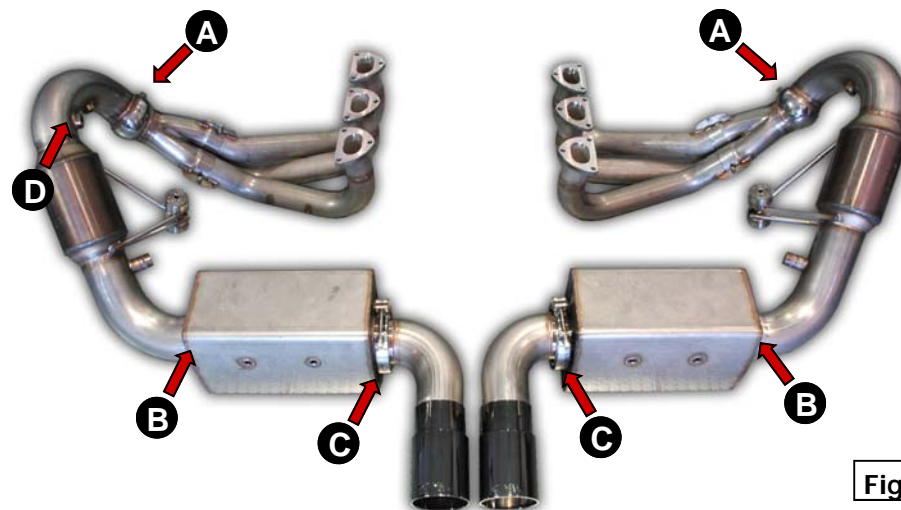

Figure 1
Step 3: Install AWE Tuning header sections (driver and passenger side specific), reusing factory cylinder head bolts. Loosely install an olive/clamp assembly on the outlet of each header (at Arrows A in Figure 1 below).
Step 4: Install AWE Tuning catalytic converter sections. Reinstall factory O2 sensors, making sure the primary O2 sensor installs before the catalytic converter on each side. Reuse the factory mounting bolts to attach AWE catalytic converter sections to factory the mounting points that were used for the fender well mufflers. Install the O2 sensor port cap into the additional O2 sensor port (At Arrow D in Figure 1 below). This additional port can be used for air/fuel monitoring via an additional on board gauge or on a chassis dynamometer.
Step 5: Install AWE Tuning muffler sections (without tailpipes or tips) on the factory rear muffler bracket still attached to the engine, using the supplied muffler straps. Use two of the 3.00" t-bolt band clamps to fasten the muffler cans to the catalytic converter sections (at Arrows B in Figure 1 below). Leave these clamps and the muffler straps loose at this time. Using the enclosed V-band clamps (at Arrows C in Figure 1 below), attach the tailpipes to the muffler cans.